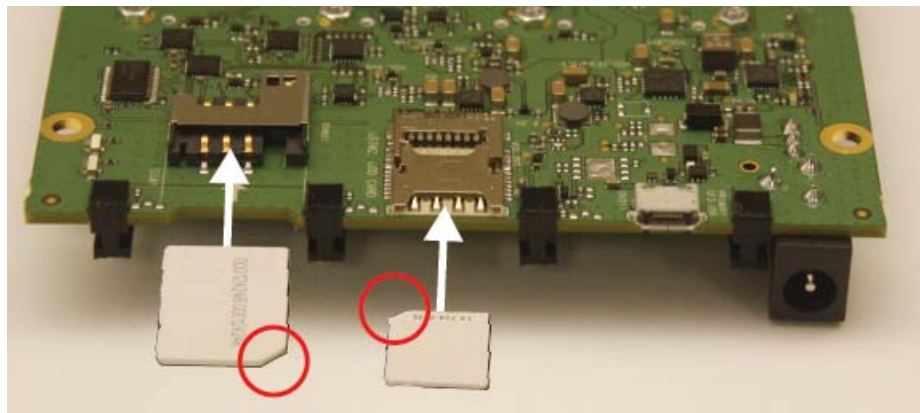

Figure 3-13: SIMs—Inserting
2. Insert the SIM card(s) face-down into the desired slot(s)—note the locations of the notched corners of the cards in Figure 3-13. (The mini-SIM is inserted with the flat end first, and the micro-SIM is inserted with the notched end first.)